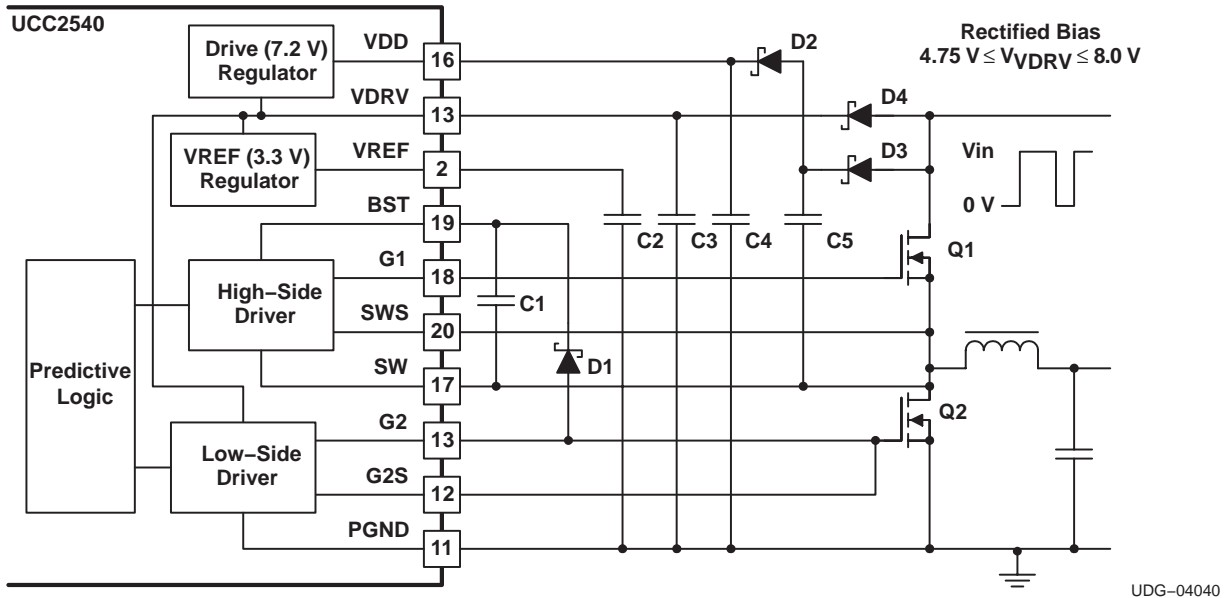
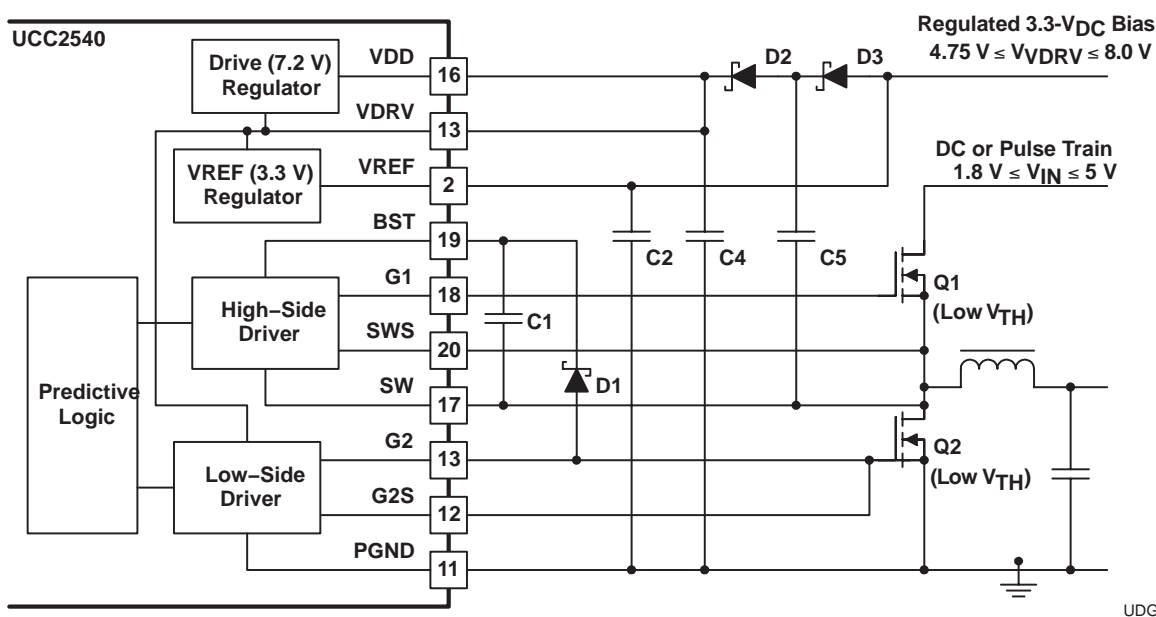

**Figure 13. Mode 1 With Rectified Biasing for Input Voltages Between 8.5 V and 35 V**
Figure 18. Mode 3 With Regulated 3.3-VDC Bias
- Mode 1, or normal operation requires the availability of a bias of 8.5 V or higher for the device. Here, the bias drives the VDD pin. The low-side drive bias, VVDRV = 7 V, is generated from an internal linear regulator and it directly draws current from the VDD pin. The high-side driver bias is a flying capacitor that is charged from the VDRV pin through the G2 pin, when G2 is HI, via a diode between G2 and BST. The UCC2540 operates in Mode 1 if VVDD > (VVDRV and VVREF) when VVREF rises above 2 V. Mode 1 permits the widest range of bias voltages, operational from 8.5 V < VVDD < 35 V. This mode is compatible with systems that have a 12 VDC bias supply already available. Alternatively, Mode 1 is particularly useful for applications where the input line voltage varies over a wide range and the bias is to be derived directly from the reflected line voltage, such as in Fig. 13.
Assorted combinations of modes and biasing schemes are shown in Figure 13 through Figure 18. In Mode 1 and Mode 2, the bias voltage can either be an independent auxiliary supply or it can be generated by rectifying and filtering the reflected line voltage, as shown in Figure 13 through Figure 16. A regulated auxiliary supply must be used with Mode 3 because the tolerance of the VREF voltage is the control tolerance of the UCC2540. In Mode 3, the regulated auxiliary supply can be independent of the power supply input voltage (as shown in Figure 18) or, the regulated auxiliary supply can be the same source as the power supply input voltage.
Capacitors C1 through C5 are all part of a charge distribution network that allows the UCC2540 to pass charge to the MOSFET gates of Q1 and Q2 (all reference designators in this section refer to the schematics in Figure 13 through Figure 18). This section gives guidelines on selecting the values of C1 through C5 so that the converter functions properly. Specific capacitor values may need to be larger than the recommended value due to MOSFET characteristics, diode D1 – D4 characteristics and closed-loop converter performance. All three modes of operation require a charge pump capacitor and diode, C1 and D1, in order to drive the high-side power MOSFET. Modes 2 and 3 require additional charge pump capacitors and diodes in order to supply voltage to VDD. In general, all charge pump diodes should be Schottky diodes in order to have low forward voltage and high speed. The charge pump capacitors should be ceramic capacitors with low effective series resistance (ESR), such as X5R or X7R capacitors.